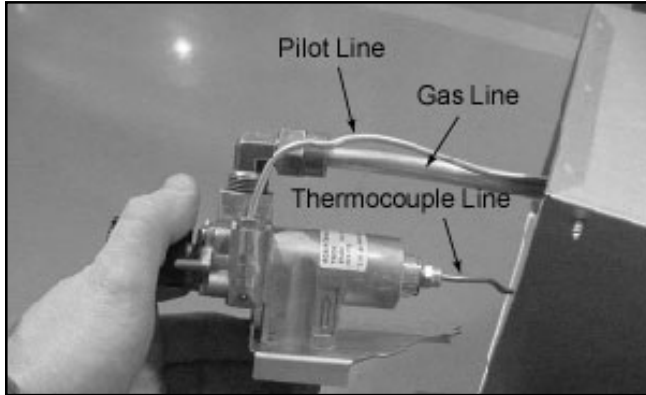

Figure 4 - Connect Lines to Valve
- e. Reach through the back access hole of the enclosure and feed the thermocouple line, aluminum gas line and pilot line through the rear of the valve box assembly. Connect to the valve. See Figure 4. Tighten fittings to eliminate gas leaks.